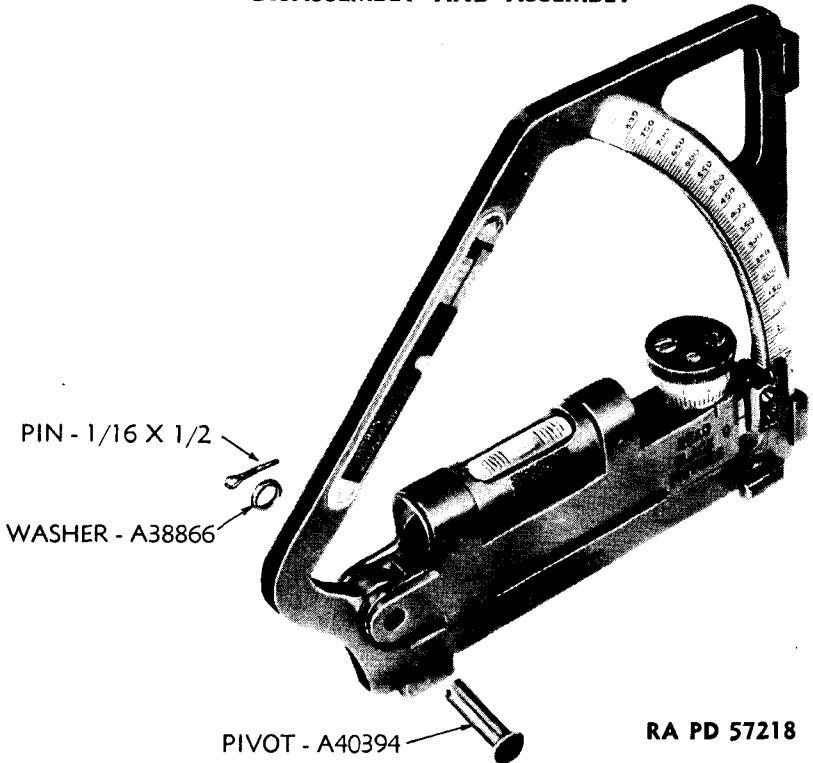
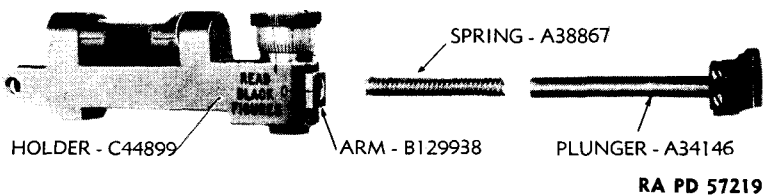
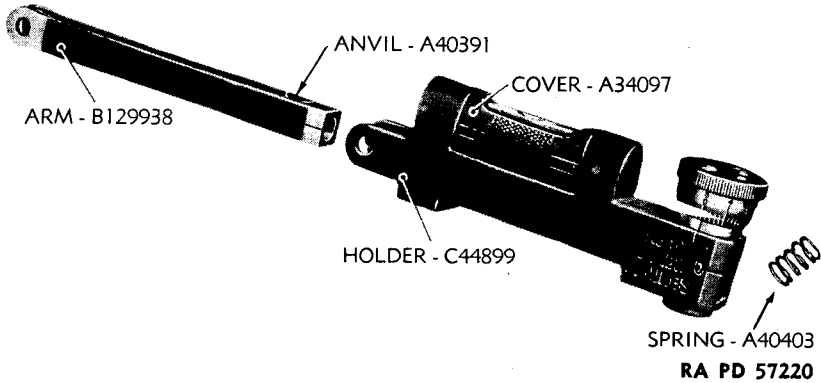

Figure 6—Gunner's Quadrant M1—Pivot Removed
Figure 7—Gunner's Quadrant M1—Plunger and Plunger Spring Removed
Figure 8—Gunner's Quadrant M1—Arm and Compression Spring Removed
(a) Remove the cotter pin from the pivot on the back side of the instrument and remove the brass washer (fig. 6).
(2) REMOVE PLUNGER FROM ARM (fig. 7). Slide out plunger and plunger spring from arm.
(3) REMOVE ARM FROM LEVEL HOLDER (fig. 8).
(6) Push level tube assembly, slotted end first, into level holder and through level vial cover. Aline slot in level tube with pin BFDX1AA in level holder and continue to push level tube in until it is seated.
(7) Insert the four headless cone point adjusting screws. **NOTE:** These screws are used in making the final adjustments of the level vial, and should not be tightened at this time. Plug at the end of the level holder is to be installed after the final level vial adjustment has been made.
e. Install Arm in Level Holder (fig. 8).
(1) Insert compression spring in position below micrometer.
(2) Push arm with arm anvil facing up, through level holder at the pivot end, and continue pushing arm until pivot holes in arm line up with pivot holes in level holder.
f. Install Plunger in Arm (fig. 7).
(1) Drop plunger spring into arm.
(2) Coat the plunger stem with a thin film of OIL, lubricating, for aircraft instruments and machine guns, and place plunger stem into arm.
g. Install Arm and Level Holder in Frame (fig. 6).
(1) Turn plunger in arm so that beveled plunger plate edges face upward.
(2) With plunger, compress the plunger spring and arm about zero on the elevation scale. Push level holder and arm into position over frame. Do not release plunger until all pivot holes are lined up.
(3) Apply one or more drops of OIL, lubricating, for aircraft instruments and machine guns, to pivot and drive pivot through holes from front of quadrant.
(4) Place brass washer over pivot in back of quadrant and secure pivot with cotter pin.